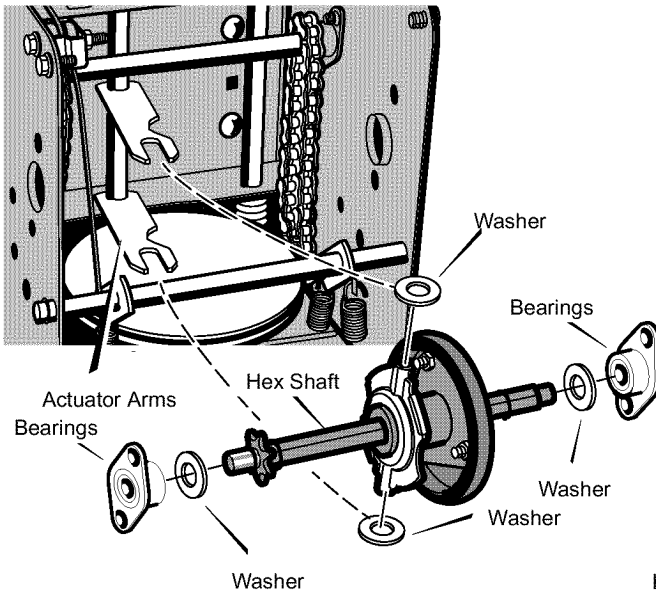

Figure 41
14. Install the **hex shaft** and **bearings** with the four bolts removed earlier (see Figure 41).